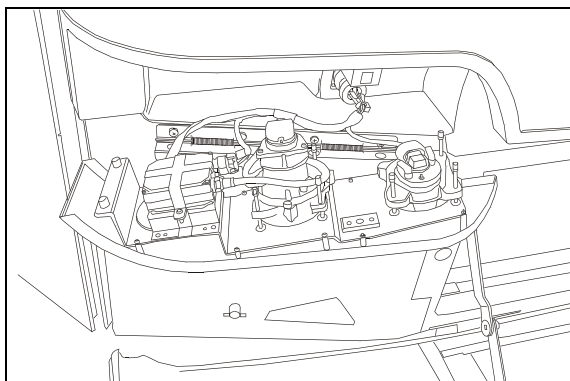

FIGURE 32: OPENING HEADLIGHT ASSEMBLY
Aiming can be performed without opening headlight assembly. Horizontal and vertical aiming of each module is provided by two adjusting screws that pivot the module in the housing for proper alignment (Figure 32). There is no adjustment for focus since the module is set for proper focus during manufacturing assembly.
2. Remove the headlight screw fixing the headlight assembly, then tilt headlight assembly down (Figure 32).